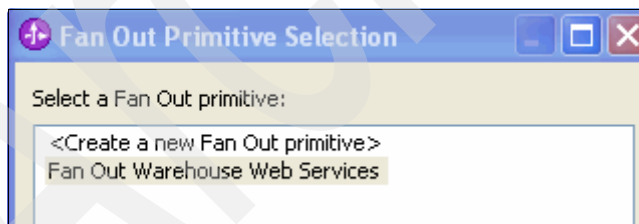

Figure 6-49 Fan in and Fan Out correspondent
7. Drag a Fan In primitive (from the Palette, Routing section) next to the three aggregation XSL Transformation primitives. As you drag the Fan In primitive, you need to specify the Fan Out primitive to which it is related, in this case, Fan Out Warehouse Web Services, as shown in Figure 6-49.